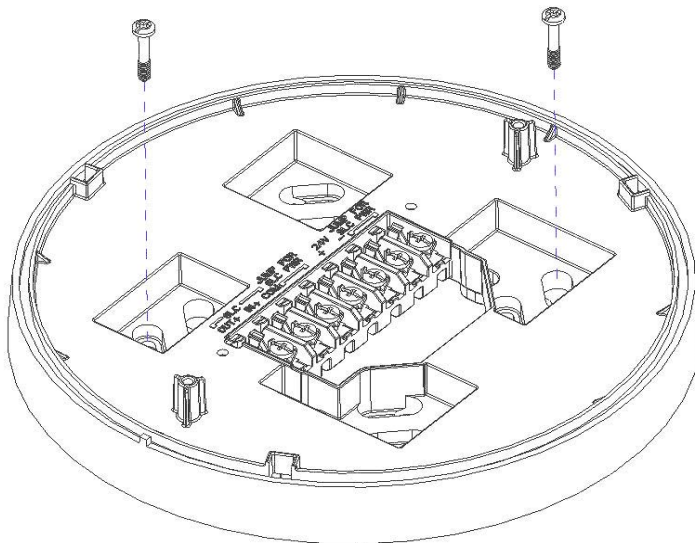

Figure 2.2 Mounting Plate
2. Mount the mounting plate to the junction box, wall or ceiling. See Figure 2.2, "Mounting Plate".